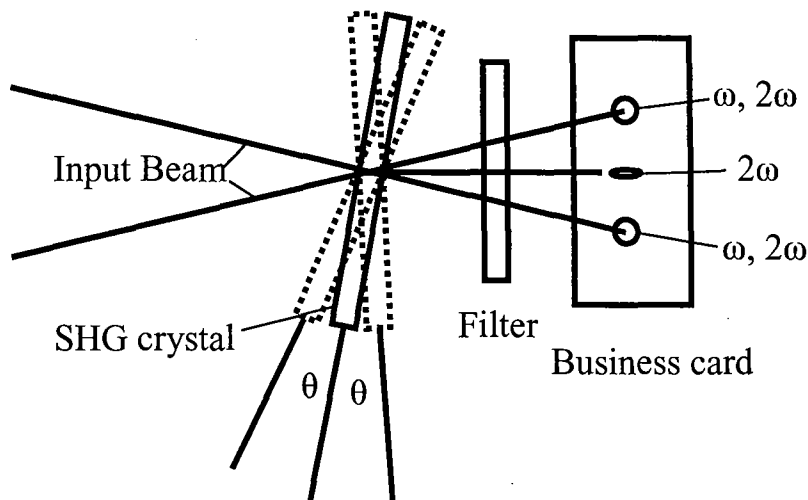

Figure 7. Illustration of the SHG alignment. The SHG autocorrelation signal is located at the center
12. Open the iris to about 2 mm (normal operation fully open the iris). Put a business card behind the SHG crystal and rotate the angle of the crystal. Two SHG (2ω) spots on the business card or sensor generated by the two input beams (ω) at two different angles should be observed, respectively, as shown by the dashed line in figure 7. A filter between the SHG crystal and the business card will help to see the SHG spots
13. Then set the angle of the SHG crystal in the middle of these two angles (shown by the solid line). A new SHG spot between the previous two SHG signals may be observed if time delay is right as shown in figure 7. The SHG signal at the center may look like a line depending on the pulse width (100fs and 1ps pulses are about 0.1 and 1 mm width, respectively, see the Principles of the Δ Autocorrelator). The SHG autocorrelation signal due to the two crossed input laser beam will be sensitive to the time delay.
16. Repeat the procedures 14 and 15 until the SHG autocorrelation signal is observed as shown in figure 7.